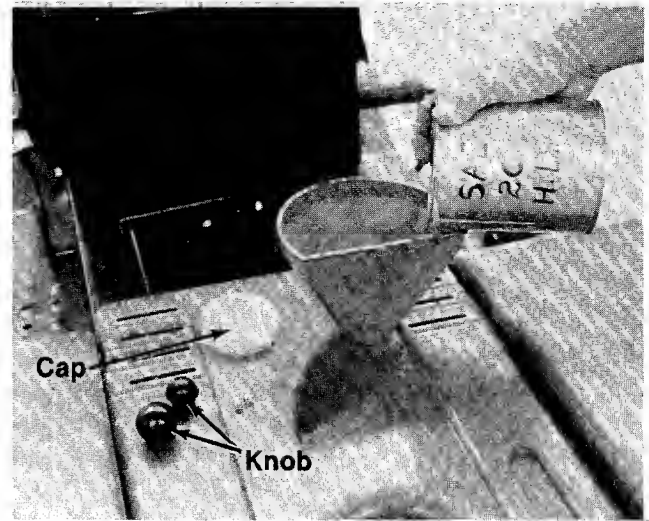

FIGURE 15.
4. If it is necessary to add oil, unscrew the cap on the reservoir/expansion tank and add oil through the hole with a funnel. Do not overfill. See figure 15.